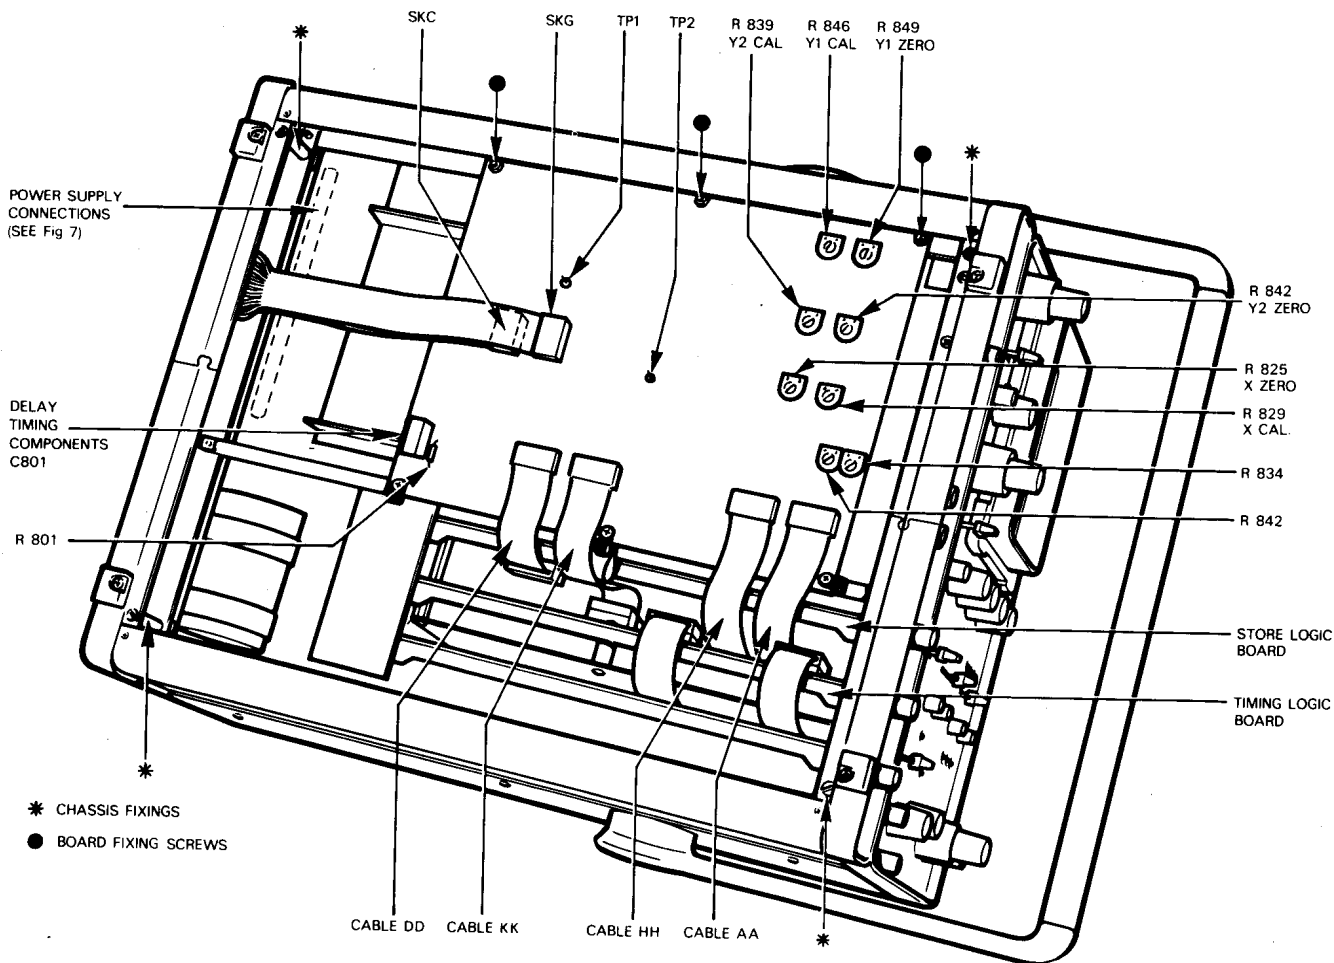

Fig. 6 Internal View of 4001
sockets as shown in Figs. 6 and 7b. (Long cables to sockets A and H, short to K and D.) It is possible to achieve this without removing the store and timing logic boards, but if any difficulty is encountered refer to the OS4000 handbook section 5.2.2 to remove these boards.
Access to the 4001 is obtained by unscrewing the six retaining screws and removing the bottom cover. Fig.6 shows the location of the preset controls and test points.
- (1) Unplug PLC and PLG.
- (2) Remove the three screws marked (•) in Fig.6.